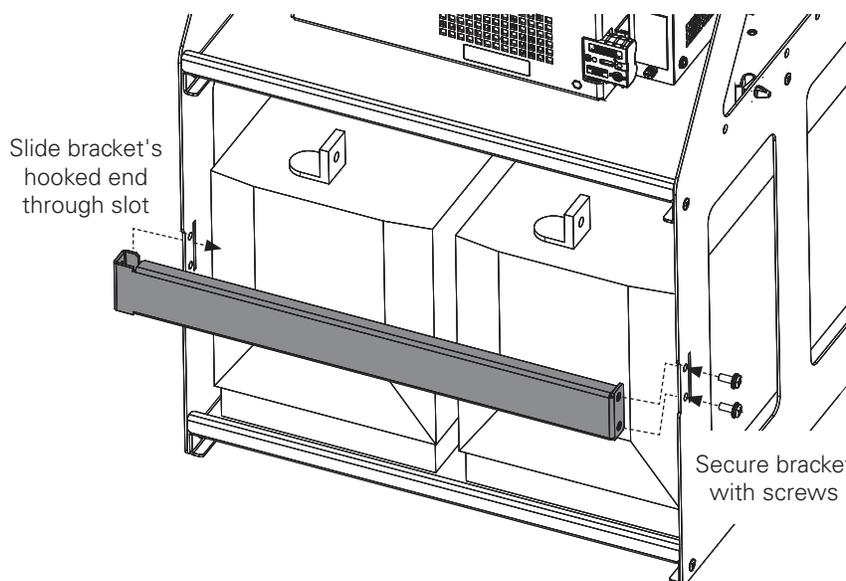

Fig. 17, Installing Battery Shelf Bracket
8. Insert the batteries on the bottom shelf. Install the battery shelf bracket by sliding the hooked end into the slot on the rack and securing the other end with two #10-32 × 1/2" screws (Fig. 17).